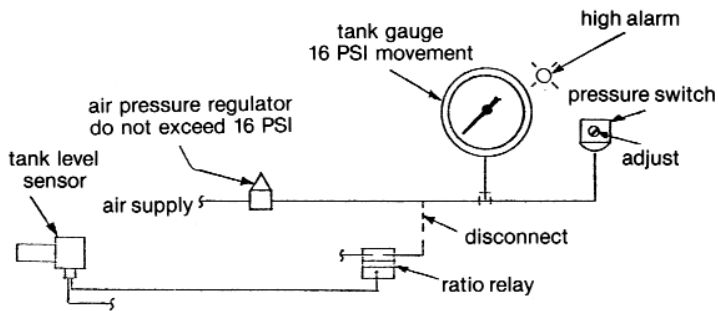

Figure 1.
The system operation can be simulated by using a temporary source of air pressure in place of the normal system signal. This can be accomplished by means of an air pressure regulator as shown in Figure 1. or a hand aspirator bulb can be used.
3. Next, connect the regulator to the gauge and pressure switch as in Figure 1. Slowly increase the pressure. The gauge hand will begin to rise. Keep increasing the pressure until the alarm sounds and the lamp lights. Observe the reading on the gauge. This is the original factory setting.